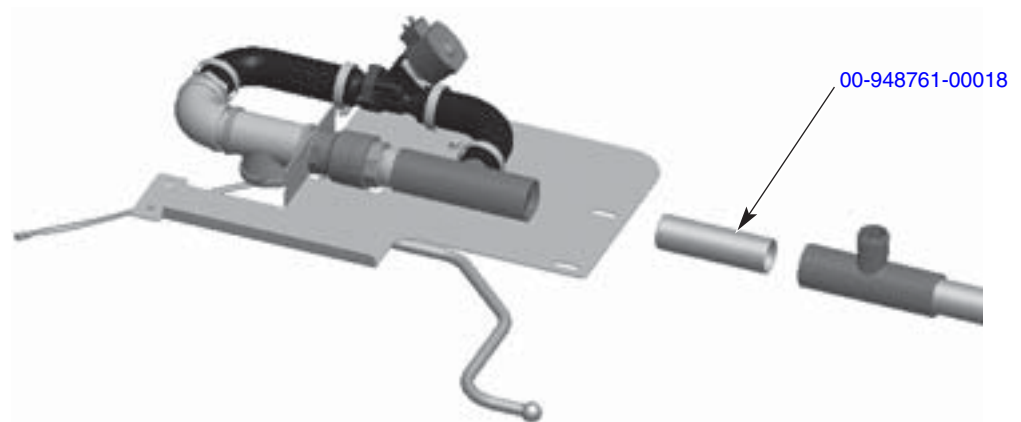

Fig. 13
9. Remove pipe (00-948761-00018) connecting the master drain and the nearest drain tee. 00-948761-00018 can be discarded. See Fig. 13.